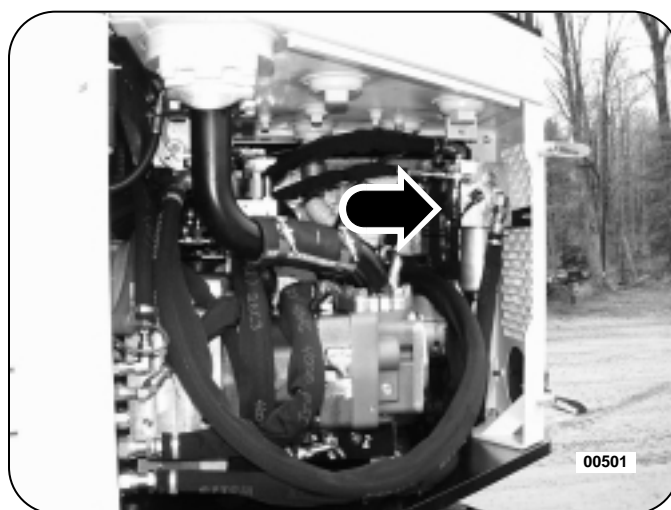

Figure 2: Wheel Drive Charge Pressure Manifold Assembly
8. Open the swing-out pump access guard and locate the wheel drive charge pressure manifold assembly. See Figure 2.